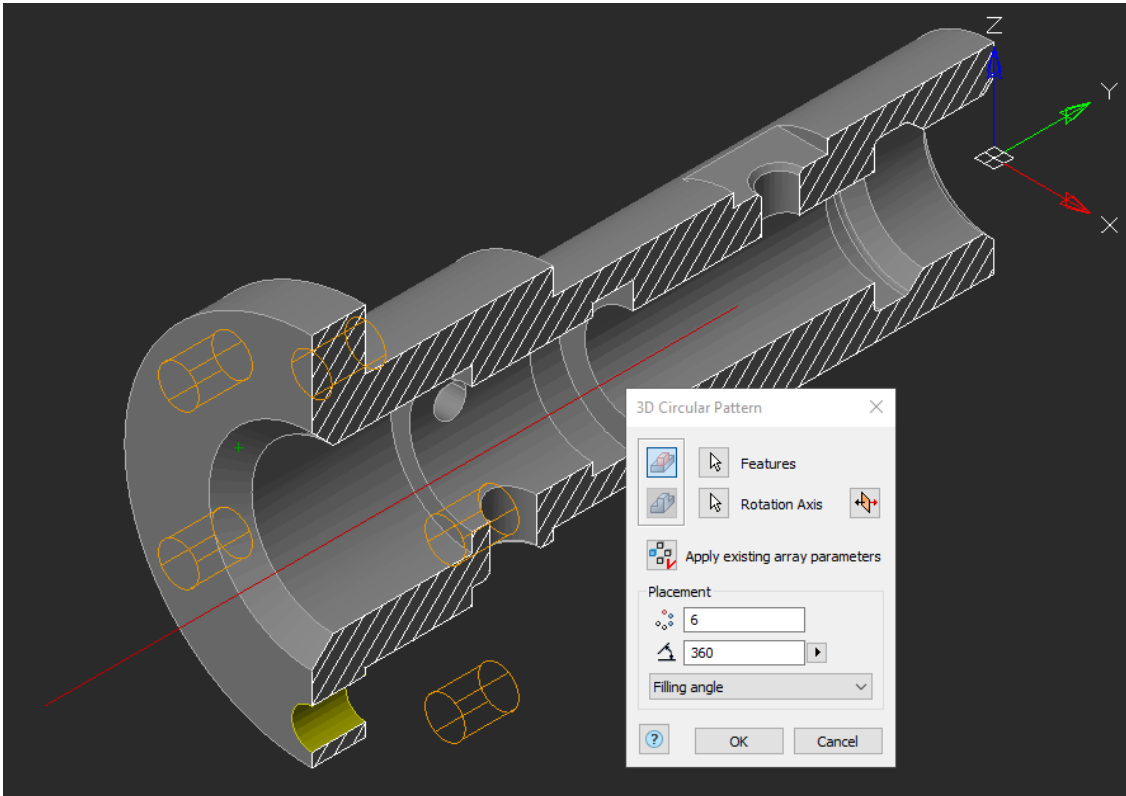

Fig. 29. The 3D Polar Array — Parameters
8.3.2. Add the following parameters in the dialog box: the number of items – 6, the angle 360° (Fig. 29).